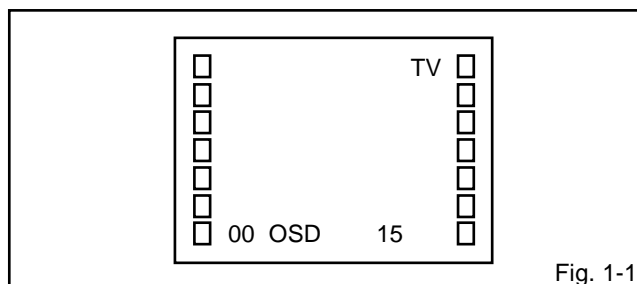

Fig. 1-1
Press the VOL. DOWN button on the set and the Channel button (**9**) on the remote control for more than 1 second to appear the adjustment mode on the screen as shown in **Fig. 1-1**.
4. Activate the adjustment mode display of **Fig. 1-1** and press the channel button (**02**) on the remote control to select "RF.AGC".
3. Activate the adjustment mode display of **Fig. 1-1** and press the channel button (**01**) on the remote control to select "CUT OFF".
4. Activate the adjustment mode display of **Fig. 1-1** and press the channel button (**10**) on the remote control to select "R. BIAS".
4. Activate the adjustment mode display of **Fig. 1-1** and press the channel button (**03**) on the remote control to select "V.VCO".
2. Activate the adjustment mode display of **Fig. 1-1** and press the channel button **(05)** on the remote control to select "H.PHAS".
3. Activate the adjustment mode display of **Fig. 1-1** and press the channel button **(06)** on the remote control to select "V.SIZE".
2. Activate the adjustment mode display of **Fig. 1-1** and press the channel button **(07)** on the remote control to select "V.SFT".
1. Activate the adjustment mode display of **Fig. 1-1**.
1. Activate the adjustment mode display of **Fig. 1-1** and press the channel button **(13)** on the remote control to select "BRI.CENT".
2. Activate the adjustment mode display of **Fig. 1-1** and press the channel button **(22)** on the remote control to select "TINT".
1. Activate the adjustment mode display of **Fig. 1-1** and press the channel button **(17)** on the remote control to select "CONT.MAX".